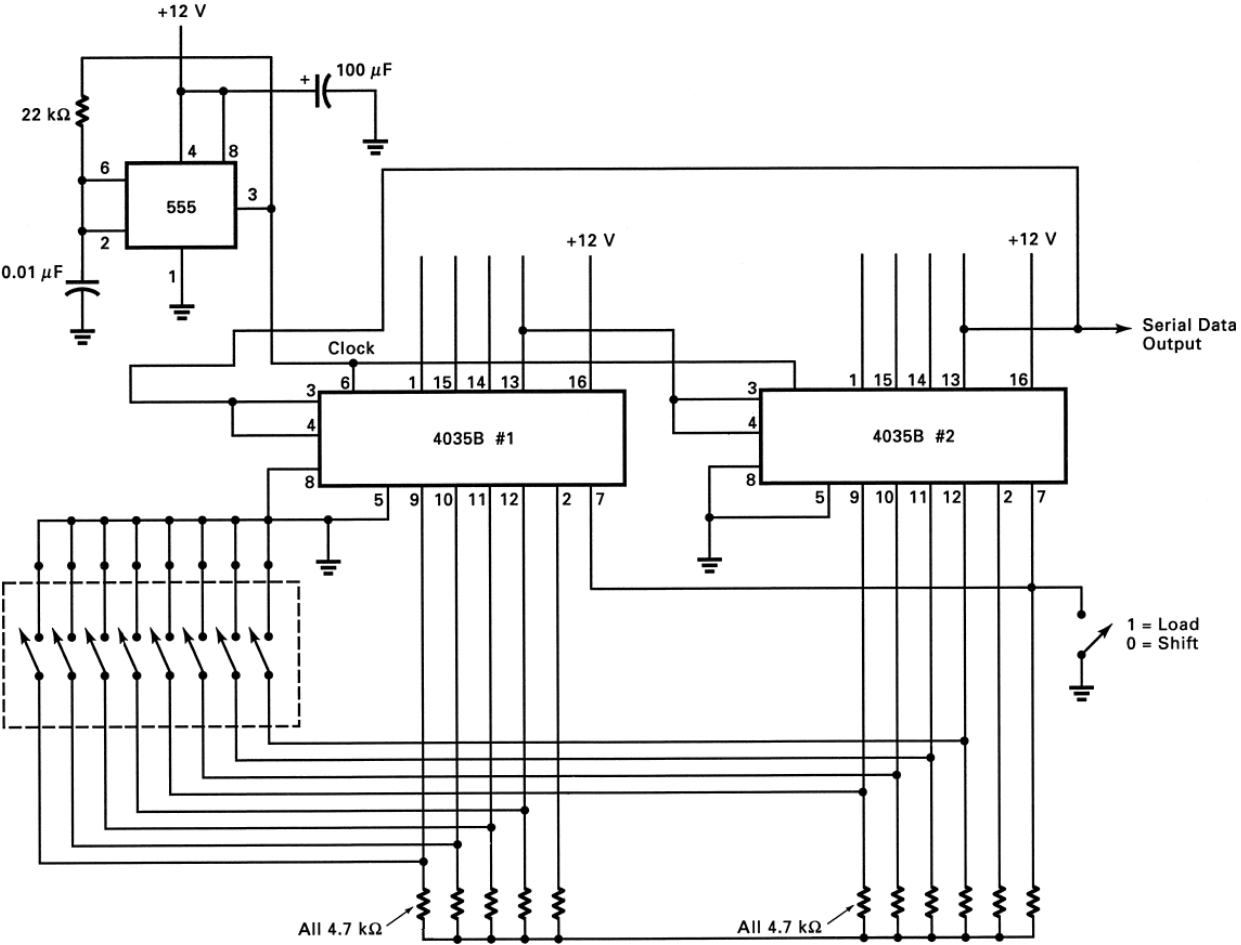

Fig. 10-3 An 8-bit parallel-to-serial data converter.
1. Construct the circuit shown in Fig. 10-3. Because of the complexity of the circuit, be extremely careful in making the interconnections to avoid wiring errors.